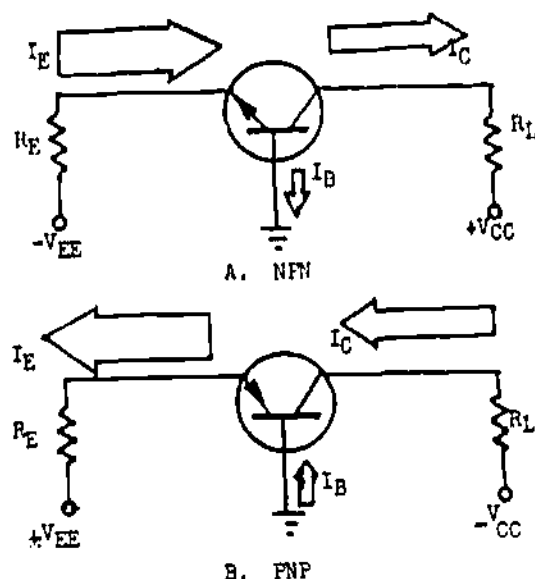

Figure 2-19. Common Base Configuration
2-69. Figure 2-19 illustrates PNP and NPN transistors biased for operation in common-base (CB) configuration. The NPN transistor